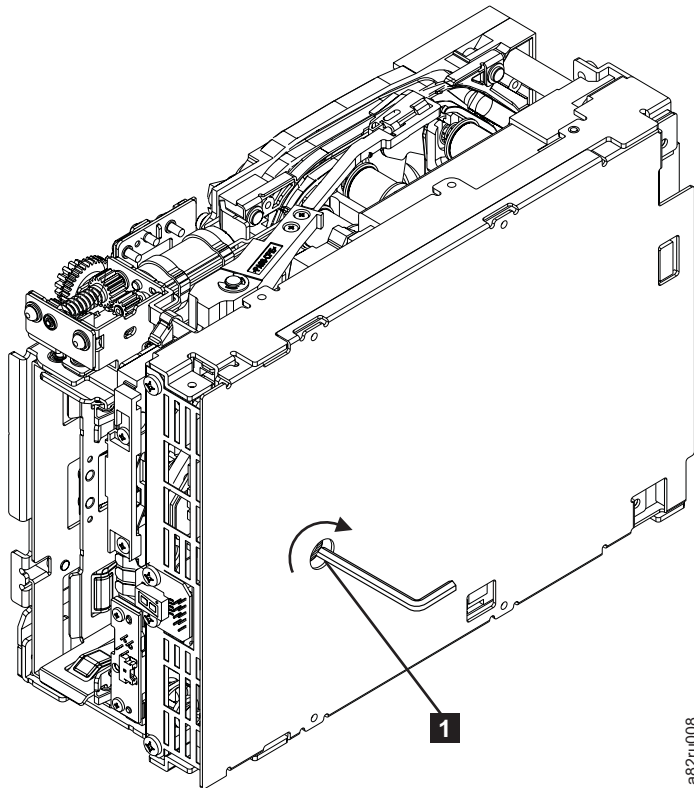

Figure 11. Using hex wrench to rewind tape into cartridge
**Note:** Be sure to keep tension on the tape as the LBA is drawn into the cartridge by using a hex wrench as shown in Figure 11 on page 55.